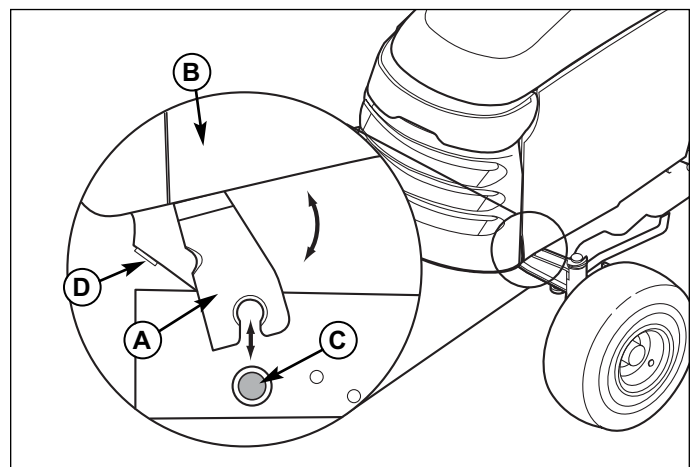

Figure 15. Hood Removal and Installation
1. Set hinge posts (A, Figure 15) onto pivot posts (C).
2. Roll the hood forward until it reaches the stops (D).
3. Install the socket and bulb (A) by pushing it into the bezel (B) twisting the socket and bulb clockwise. Repeat on other side.